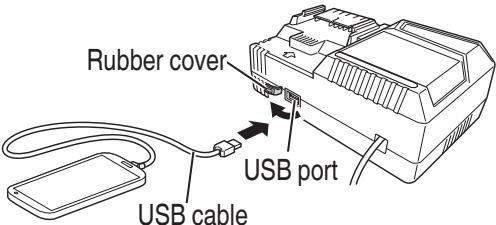

Fig. 8
## (2) Connect the USB cable. (Fig. 8)